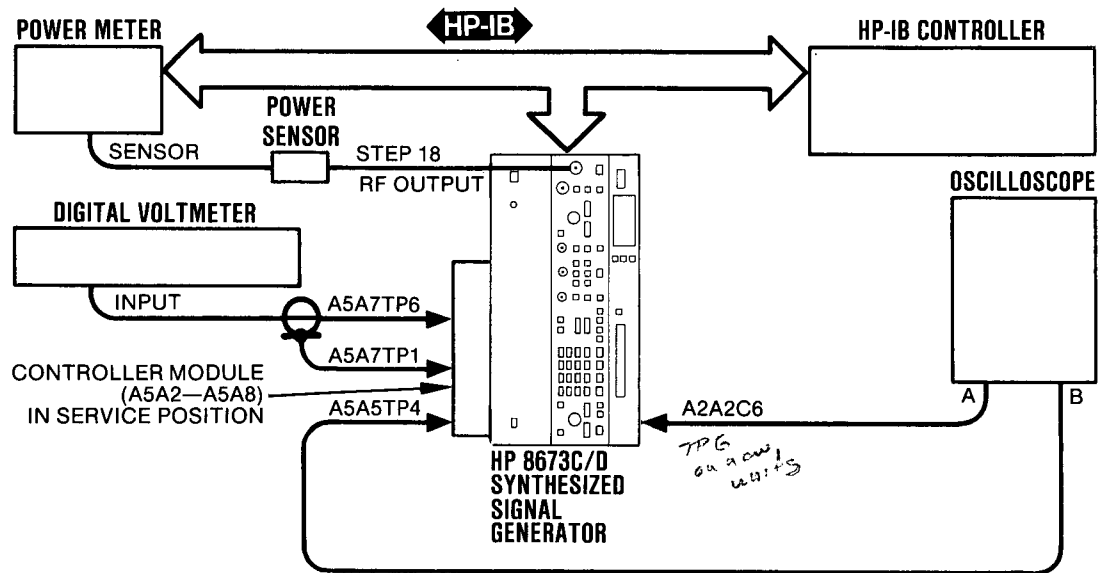

Figure 5-27. YTF Adjustment Test Setup
1. Connect equipment as shown in Figure 5-27. Remove top and bottom covers of the Signal Generator and put the Card Cage and A5A9 assembly in the service position. (Refer to Section VIII disassembly procedures.)
8. Connect oscilloscope to Signal Generator as shown in Figure 5-27. Channel 1 is connected to A1A2A2C6 feedthru capacitor. Connect Channel 2 to A5A5TP4.